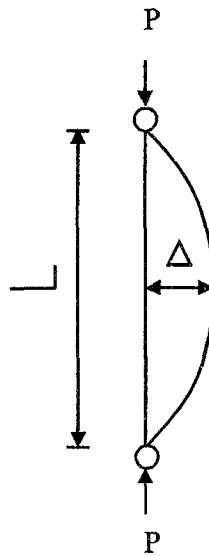

Fig. 4.0
5. (a) A prismatic bar with hinged ends, Fig. 4.0, is subjected to the action of axial force. Find the buckling load by assuming the initial deflection of the bar is zero. Also explain the physical meaning of the equation, if $n = 1$. (10 marks)